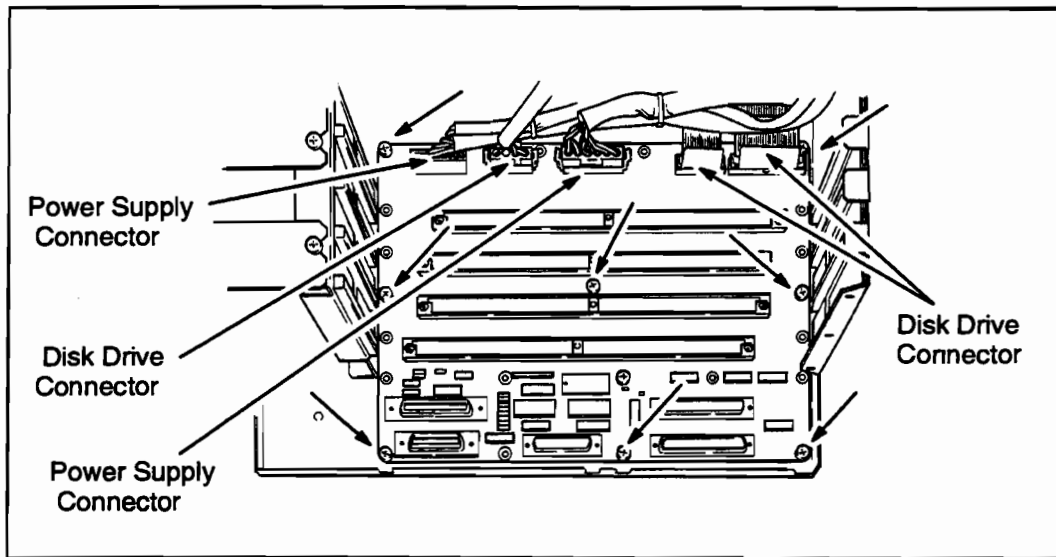

Figure 6-97. Main Interconnect PCA Removal
10. Remove all cable connectors from the VRC Main Interconnect PCA. See Figure 6-97.